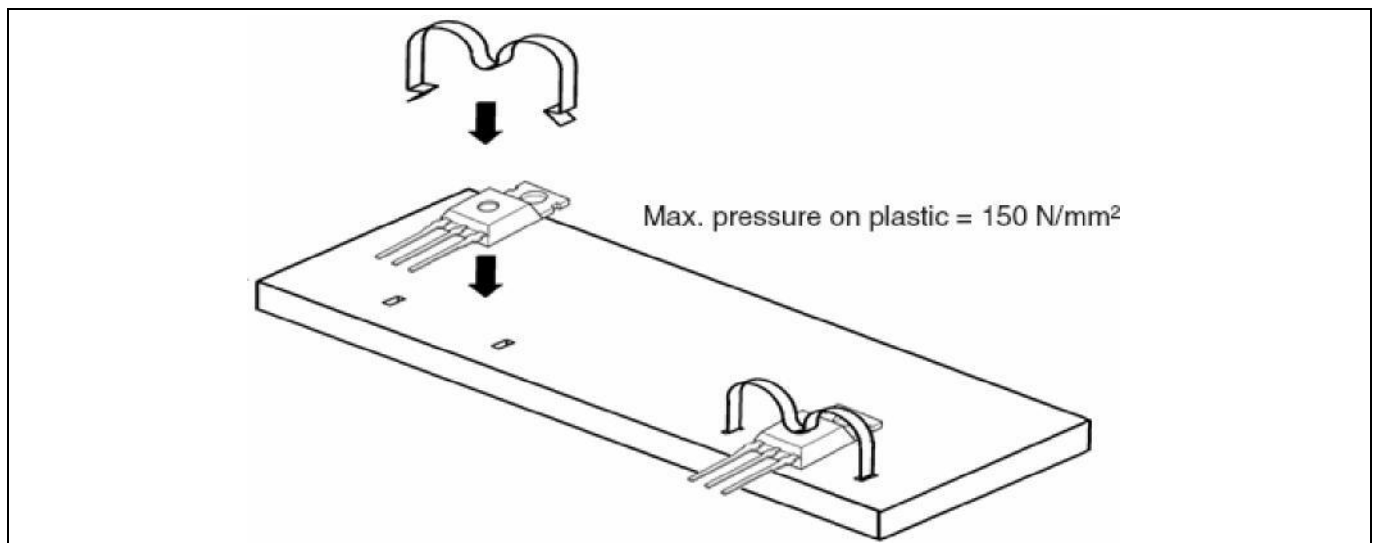

Figure 3 Example of clip mounting (saddle-clip)
- For heat sinks of less than 5 mm thickness, saddle clips should be used (see Figure 3). These clips provide contact forces between 15 N and 50 N depending on their specification